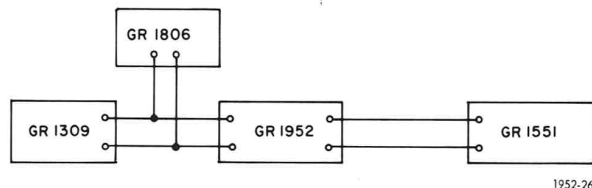

Figure 6-2. Noise and Distortion Test Set-Up.
a. Use the set-up of Figure 6-2 (the filter must be in its cabinet for all remaining tests) and the conditions of Table 6-4.